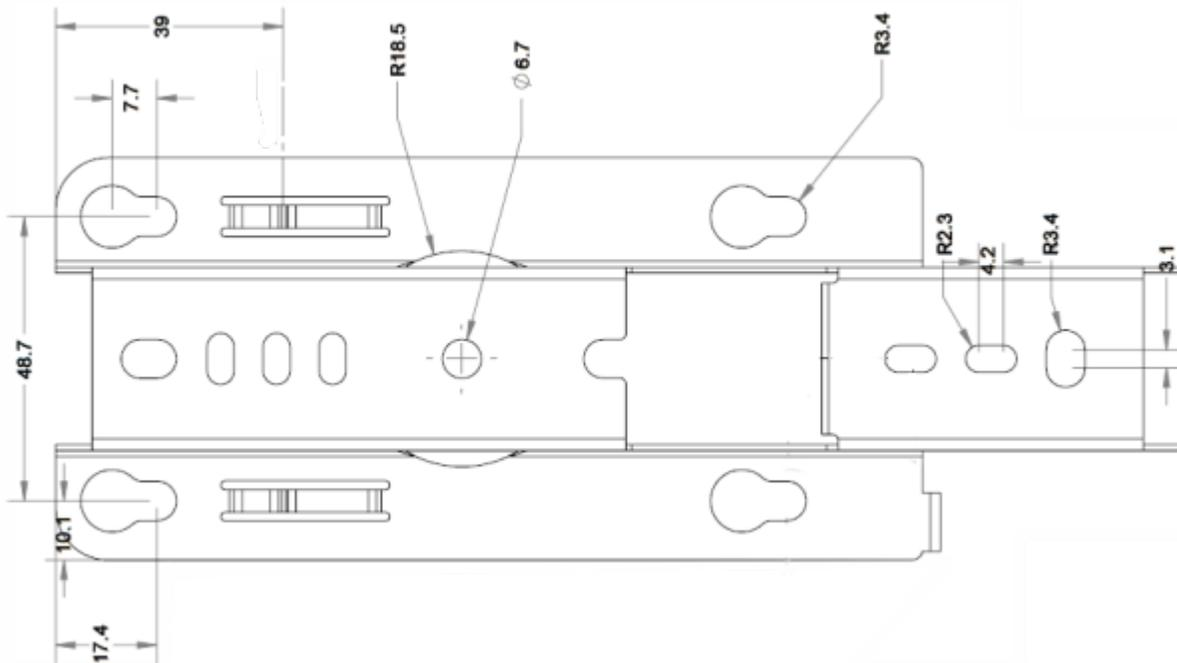

Figure 6-6: Mounting Bracket Dimensions
- Refer to Figure 6-6 for bracket dimensions.